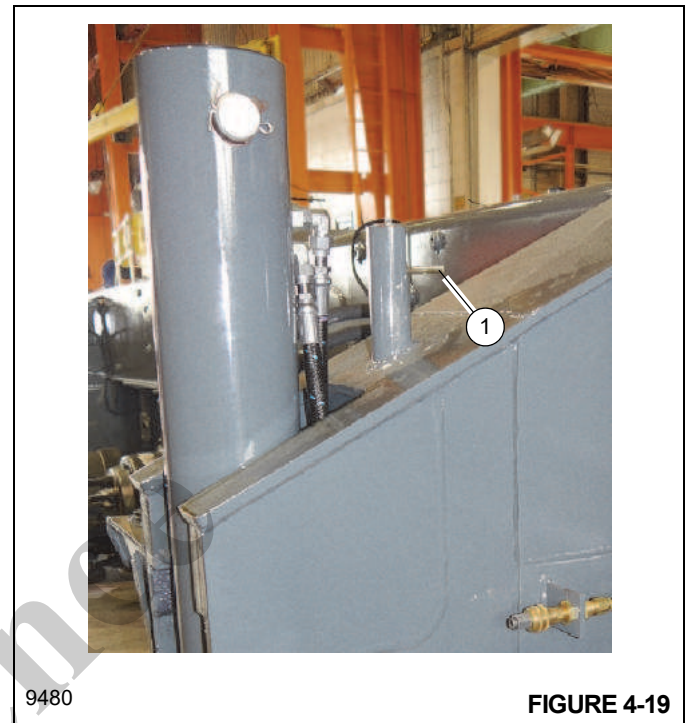

FIGURE 4-19
1. With the outriggers fully retracted, turn locking pin (1), (Figure 4-19) 90° from its stowed position and allow pin to slip into the lug on the jack beam. If pin will not slip into
1. With outriggers extended, lift and turn locking pin (1), (Figure 4-19) 90° from its engaged position and allow handle of pin to rest on top the lug.